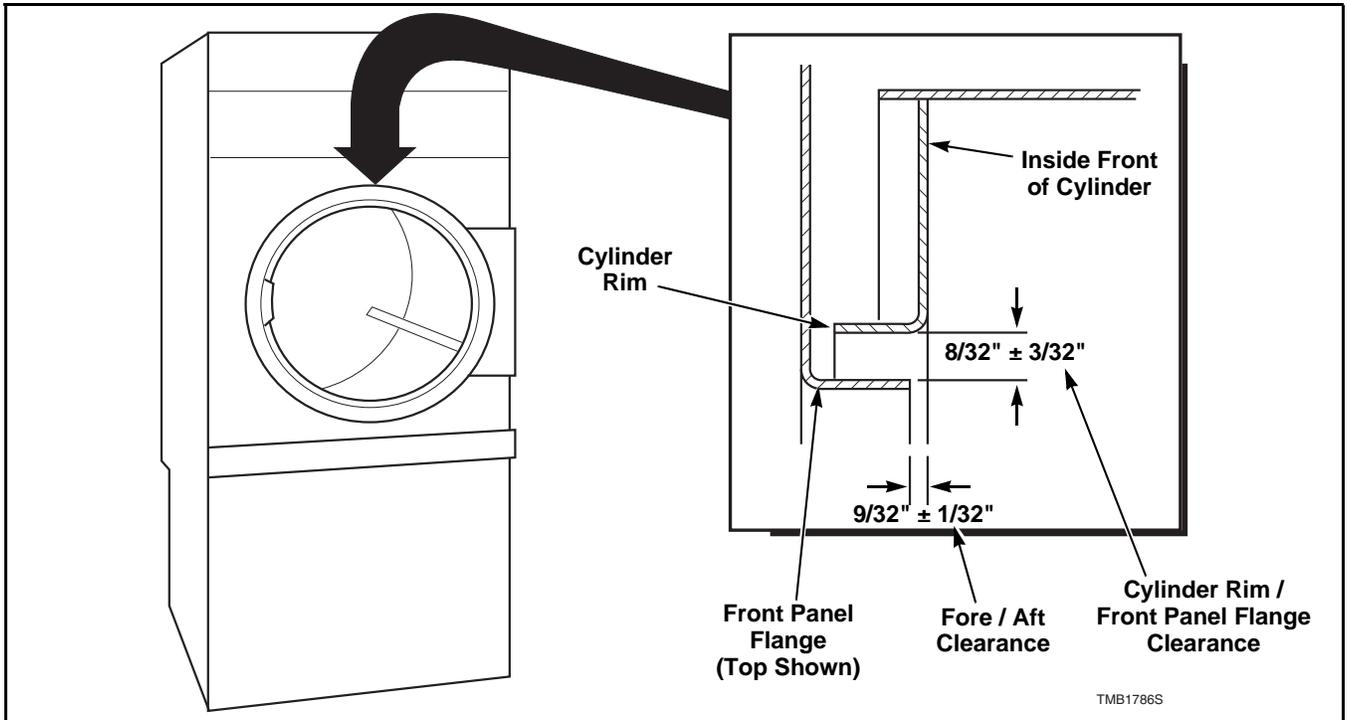

Figure 6
- b. Check the gap between the center of the front panel top flange and the cylinder rim. Proper adjustment is when the gap is  $8/32$  inch  $\pm$   $3/32$  inch. Refer to *Figure 6*. Perform steps d through i to adjust the cylinder rim/front panel flange clearance.
- c. Check the cylinder fore/aft clearance between the inside front of the cylinder and the edge of the front panel flange. Proper adjustment is when the gap is  $9/32$  inch  $\pm$   $1/32$  inch. Refer to *Figure 6*. Perform steps j through n to adjust the cylinder fore/aft clearance.